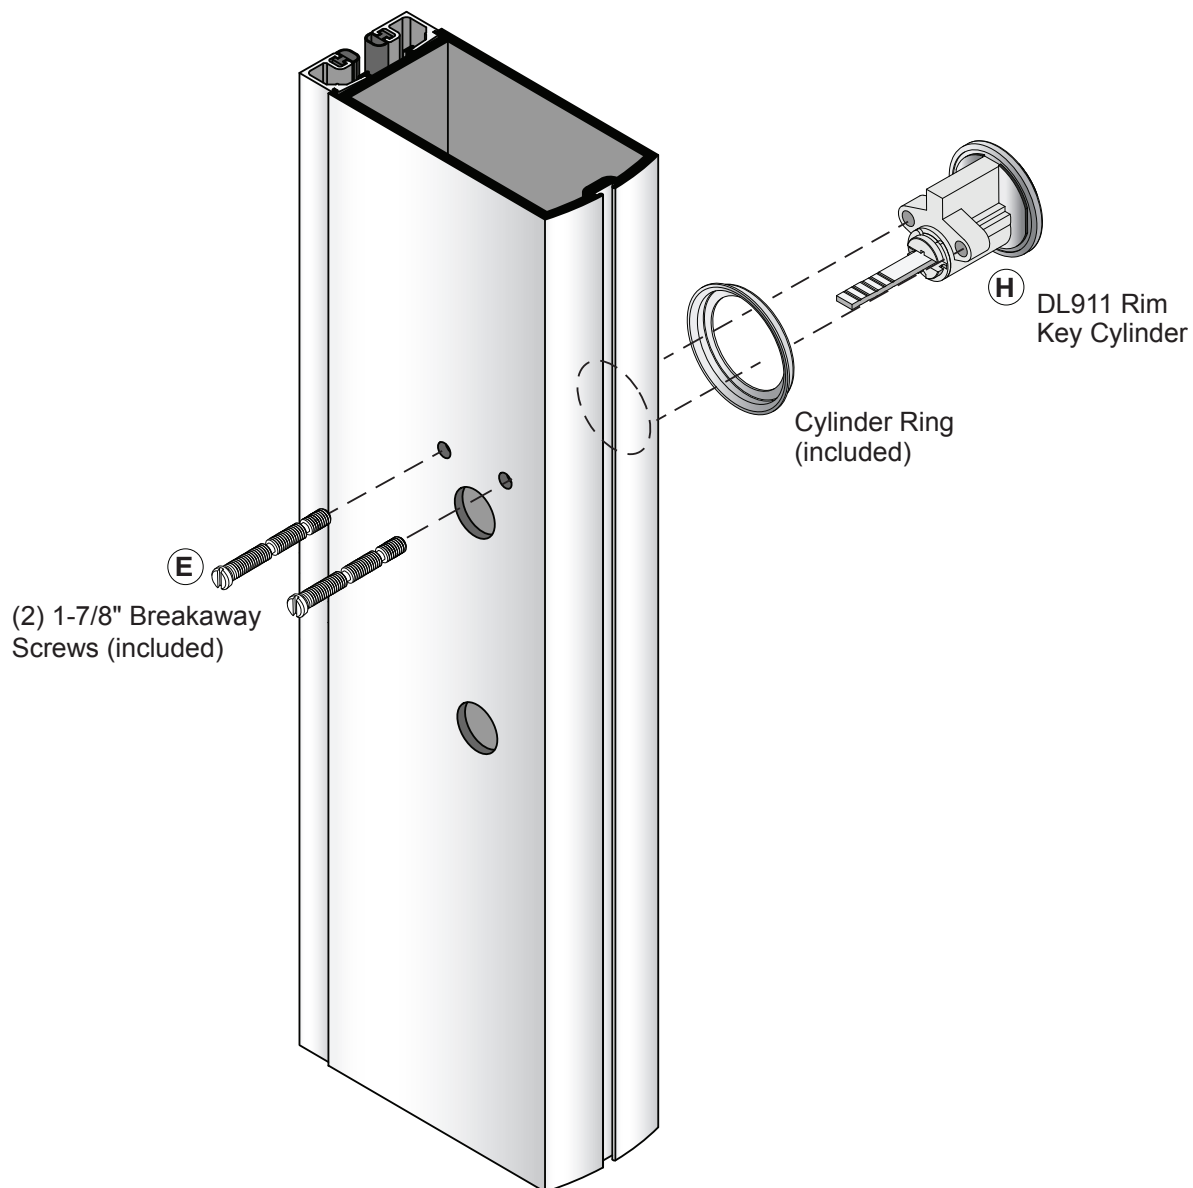

FIG. 9
1. Attach the Rim Cylinder on door stile with (2) 1-7/8" (47.6 mm) Breakaway Screws provided. Fig. 9